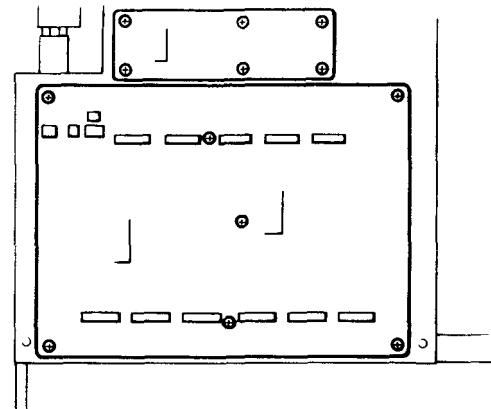

Figure 12.
- 31) Remove the six screws of the Sensor circuit board and the seven screws of the I/O circuit board., and take out the two units. (See Figure 12.)